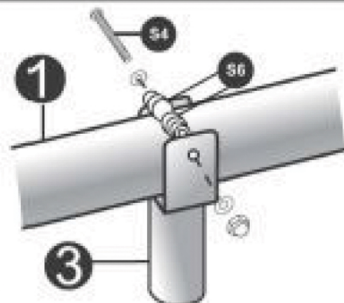

Fig. 5
Step 1. Use S4 bolt to attach Main Centre Bar to Upper Support Tube through corresponding hole on both components. Make sure to properly place washers between fastener (head and nut) and seesaw parts to ensure smooth and safe movement (Fig. 5).